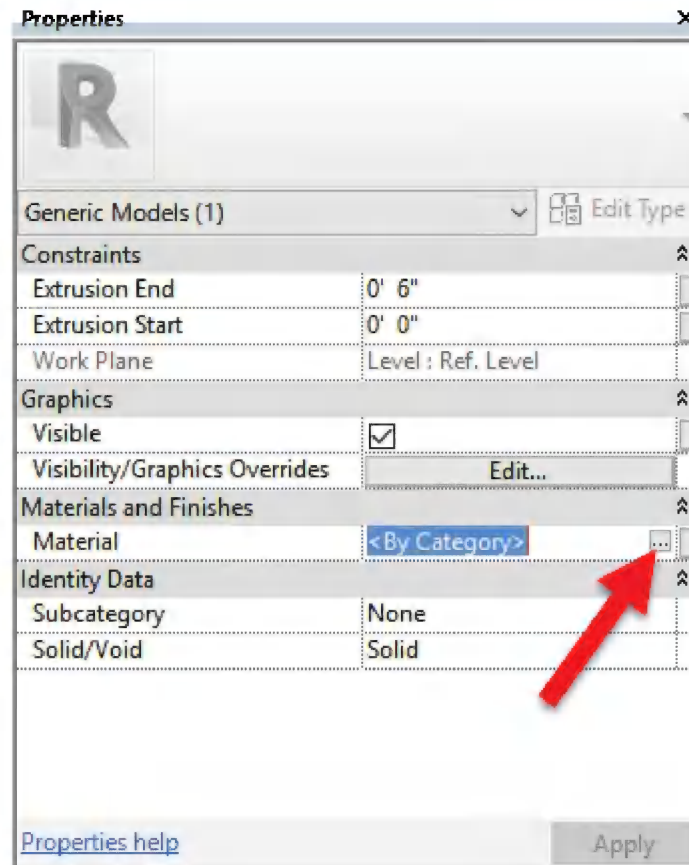

FIGURE 15-4.6 Instance Parameters for 3D geometry
Notice, in Figure 15-4.6, that the *Material* is set to *By Category*. This will be changed to something specific to this *Family*.
15. Click in the cell with *<By Category>* to reveal the small link button to the right; see Figure 15-4.6.